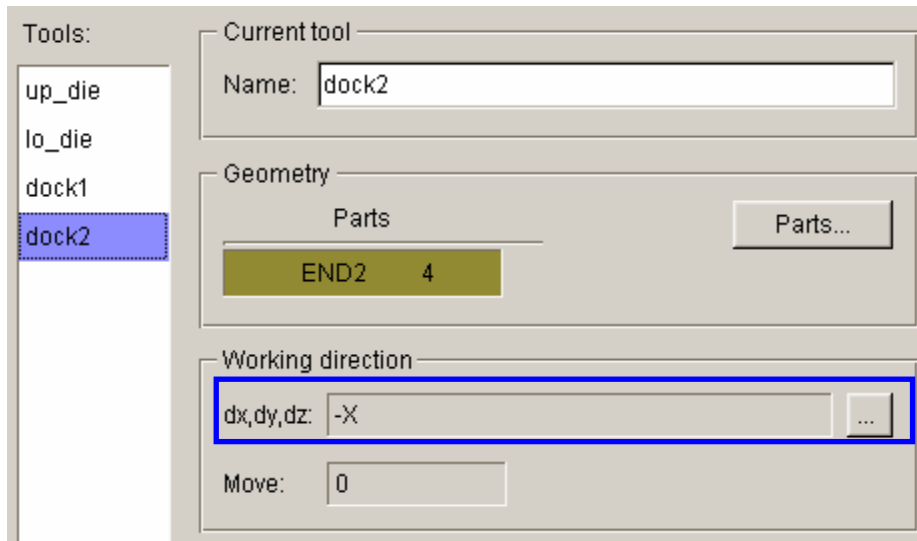

Figure 3.27 Define dock2
26. Click on **X** button **twice** to set the vector of working direction as **-1**. See Figure 3.27.